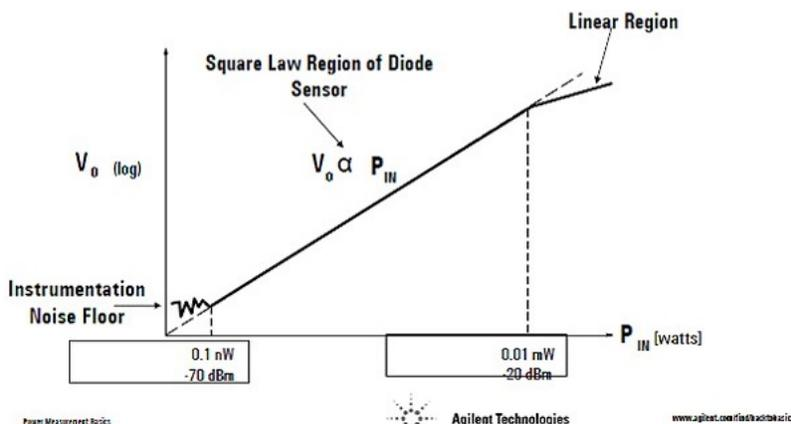
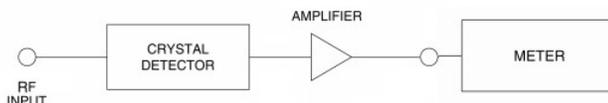

Figure 1: Typical characteristic curve of an RF detector. Image courtesy of Agilent Technologies
Figure 2: Simplified schematic for RF power detection
Figure 1 shows a typical response of an RF detector in which the square-law region is clearly indicated.
Although barretters and thermistors are useful in the absolute measurement of power, for most laboratory measurements it is sufficient to determine the relative power or field strength levels. These relative power measurements may be made on unmodulated signals giving a direct current or voltage from the detector. For the utmost sensitivity, the detector should be followed by some signal amplification before the output is presented on an indicator. The problems associated with stable, high gain DC amplifiers can be avoided by using an RF source that is modulated at an audio frequency. The resultant detected, low-level audio signal may be easily amplified in a narrow band, high gain amplifier. As indicated in Figure 2, a crystal detector can be used to detect very small signals by the use of a low-noise amplifier following its low-pass output.
The range of power levels that can be detected or accurately measured is limited at higher power levels by the deviation of the device from the square law characteristic and at the very low power levels by the noise produced by the detector itself and the following amplifying system as depicted in Figure 1.
1. Explain how representing input power and output voltage in log scale might benefit the representation of square-law region? **Hint:** look at Figure 1 and think of the mathematical function relates them, also, look at question 2 below.
- In the scenario illustrated in Figure 2, if the gain of our detector (i.e. the gain of the amplifier before the output terminal) was made 4 times larger, how would the slope of its output (in log scale) (see Figure 1) change (if at all)?